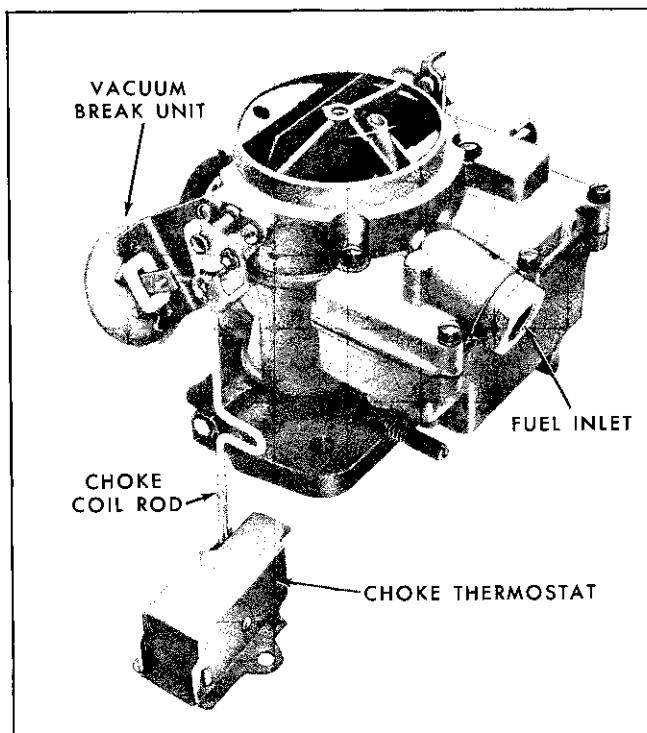

Fig. 6B-39 Rochester 2GV Carburetor
3. Detach choke intermediate rod (Fig. 6B-39) at lower end by removing clip, then detach choke intermediate rod from choke shaft by rotating until tang on rod clears slot in lever.
4. Remove retaining screw at end of choke shaft and remove choke trip lever and fast idle link and lever (Fig. 6B-40). Lever can be removed from link by turning until slot in lever will pass over tang on link. The link and fast idle cam are retained by a Truarc washer. Disassembly of these pieces will destroy Truarc washer.
5. Remove eight cover screws and lift cover from bowl (Fig. 6B-41).